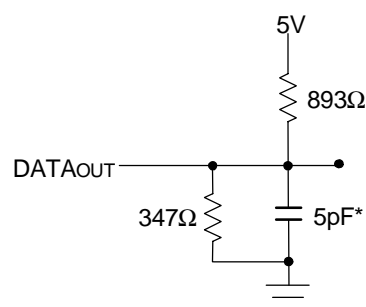

Figure 2. Output Test Load
1. Transition is measured 0mV from Low or High-impedance voltage with Output Test Load (Figure 2).
1. Transition is measured 0mV from Low or High-impedance voltage with the Output Test Load (Figure 2).